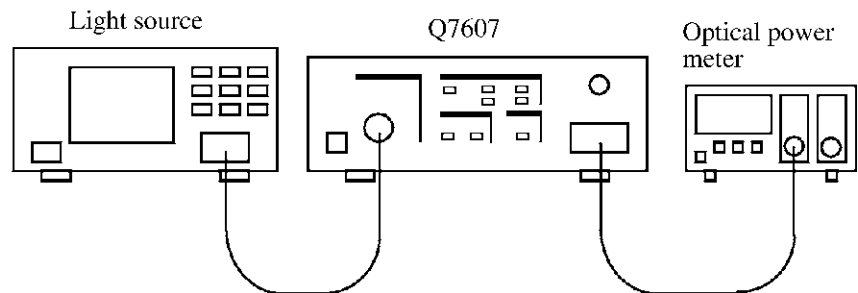

Figure 4-1 Setup for Measuring a Insertion Loss
1. Connect equipment as shown in Figure 4-1.